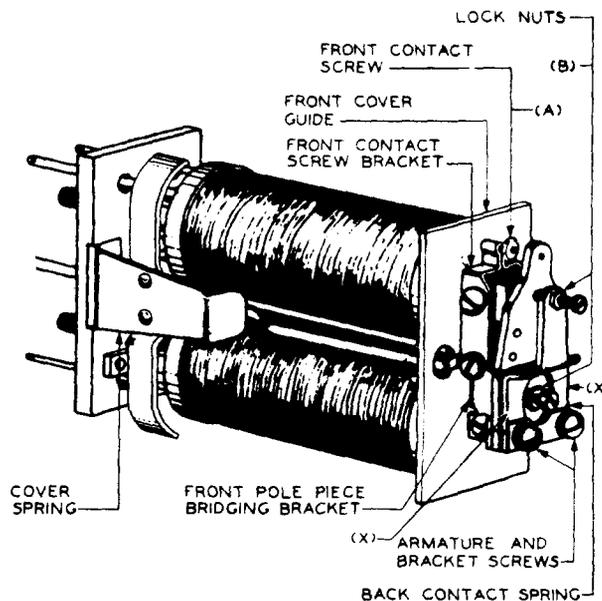

Fig. 2 - 196-Type Relay
- 2.02 Relay Mounting: Relays shall be fastened securely to the mounting plate. This shall be checked for by grasping the relay firmly at the points marked X in Fig. 2 and applying a vertical and a horizontal pressure to the relay. Do not attempt to turn the relay. Gauge by feel.
2.05 Tightness of Front Contact Screw - Fig. 2 (A): The front contact (or stop) screw shall be sufficiently tight in the front contact screw bracket to hold any adjusted position. Gauge by feel.
(a) Fig. 2(B) - Locknuts shall be sufficiently tight to hold the screws in their adjusted position.